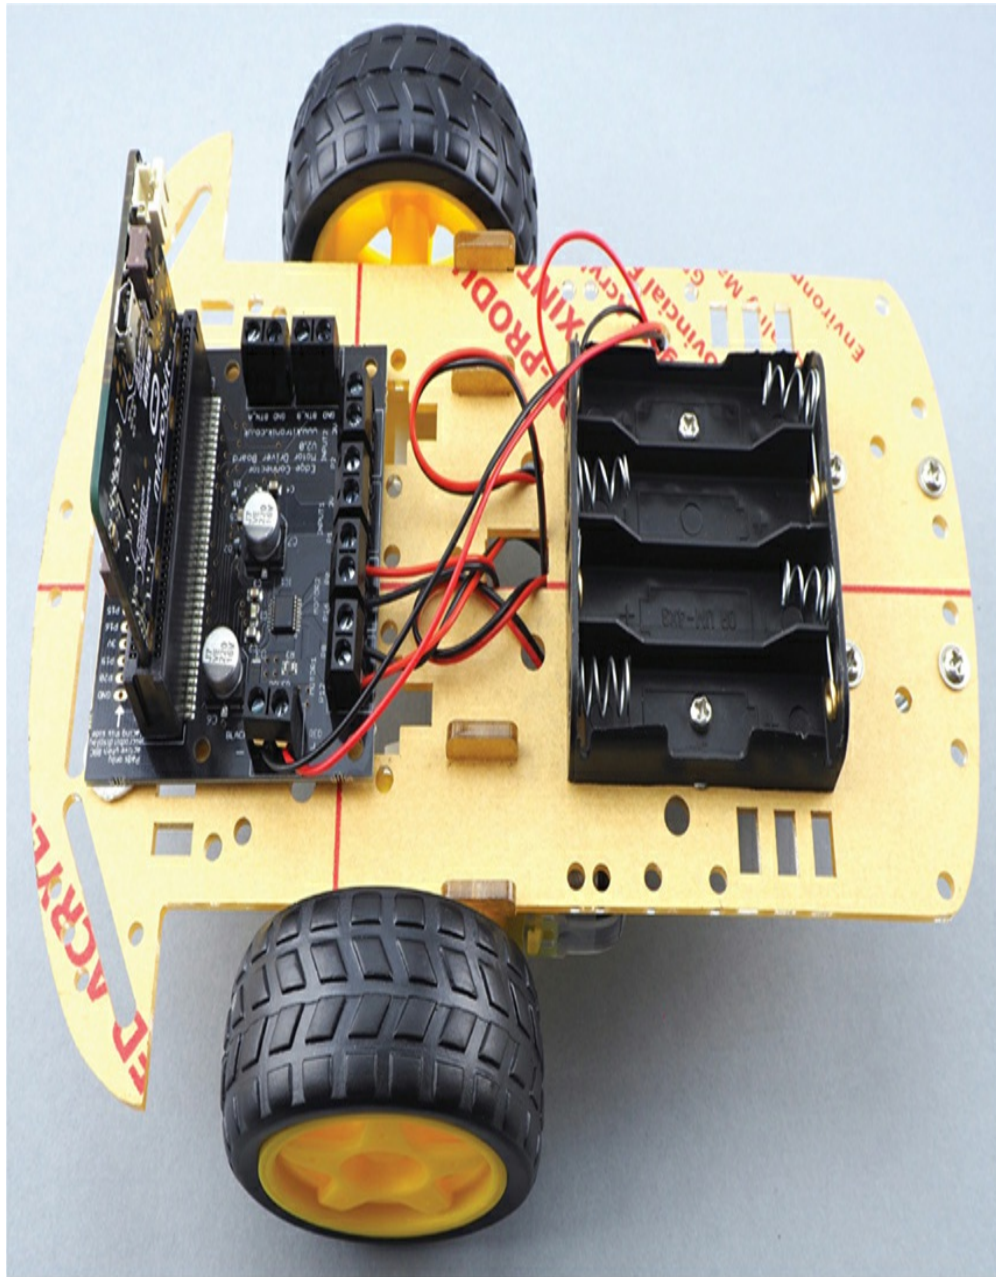

Figure 6-26: Wiring up
5. It's time to wire up the motors and battery box. First, look at Figure 6-26 to see what you are aiming for. Unscrew the screw on the relevant terminal, place the wire firmly inside the terminal, and then screw the